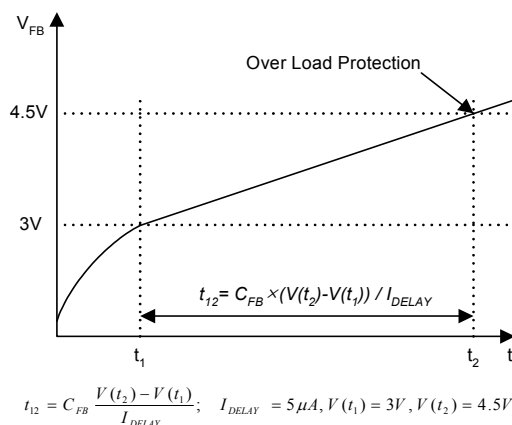

Figure 10. Over Load Protection (OLP)
4.1 Over Load Protection (OLP) : Overload is defined as the load current exceeding a pre-set level due to an unexpected event. In this situation, the protection circuit should be activated in order to protect the SMPS. However, even when the SMPS is operating normally, the over load protection (OLP) circuit can be activated during the load transition. In order to avoid this undesired operation, the OLP circuit is designed to be activated after a specified time to determine whether it is a transient situation or an overload situation. In conjunction with the I_{pk} current limit pin (if used) the current mode feedback path would limit the current in the Sense FET when the maximum PWM duty cycle is attained. If the output consumes more than this maximum power, the output voltage (V_o) decreases below its rating voltage. This reduces the current through the opto-coupler LED, which also reduces the opto-coupler transistor current, thus increasing the feedback voltage (V_{FB}). If V_{FB} exceeds 3V, the feedback input diode is blocked and the 5uA current source (I_{DELAY}) starts to charge C_{fb} slowly up to V_{cc} . In this condition, V_{FB} increases until it reaches 4.5V, when the switching operation is terminated as shown in Figure 10. The shutdown delay time is the time required to charge C_{fb} from 3V to 4.5V with 5uA current source.